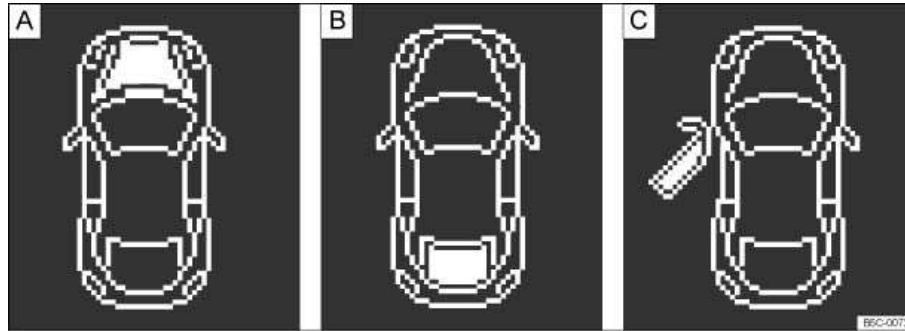

Fig. 15 In the instrument cluster display: A: Open engine hood, B: Open rear hatch, C: Open driver door.
- Open door, engine hood, or rear hatch ⇒ fig. 15